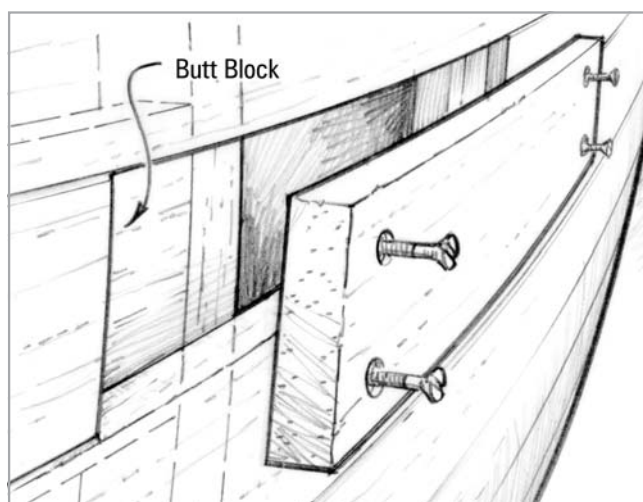

Figure 5-7 Replace a section of plank using butt joints.
2. Cut a replacement piece of wood for the opening and a piece for a backing plate (*Figure 5-7*). A backing plate will be required behind each butt joint unless the joint falls on a frame. When the repair section falls between frames, the backing plate should run from frame to frame. When replacing longer sections of planking, a backing plate is only required at the ends.